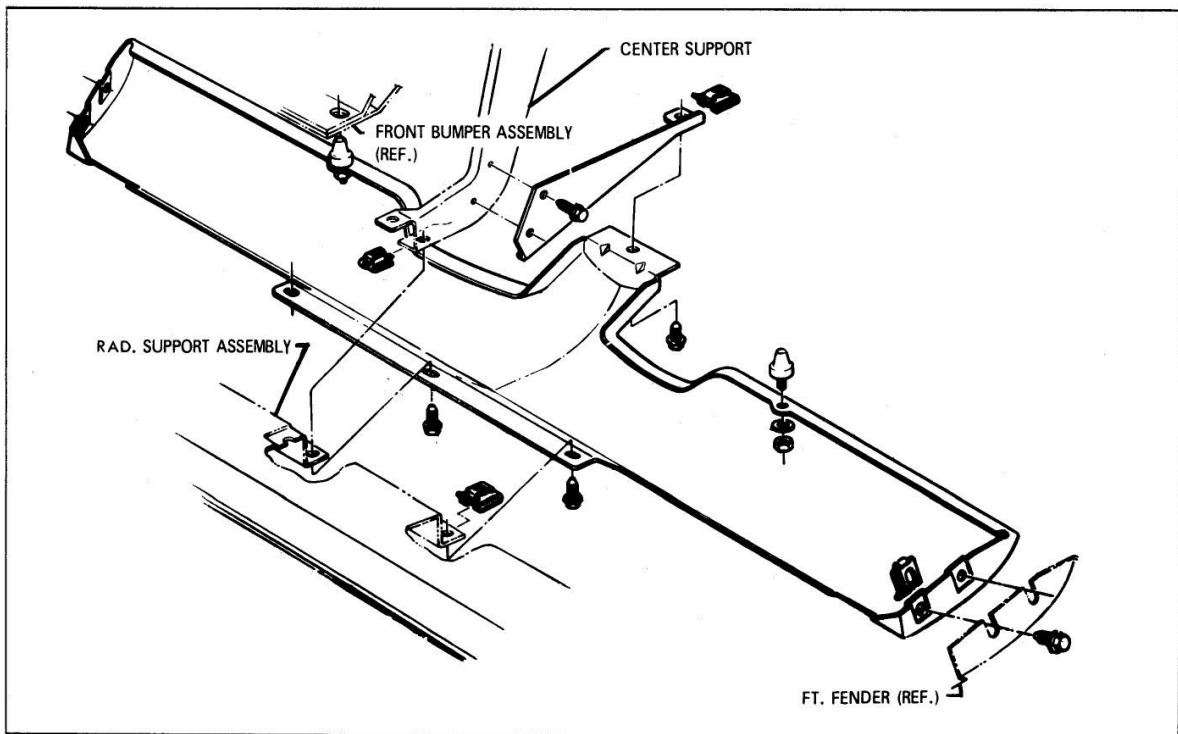

Fig. 14-6 Pontiac Front Valance Panel
3. Remove valance panel (Fig. 14-6).